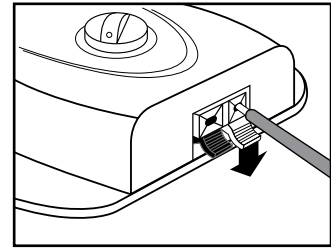

figure 18
- Insert one end of the Boundary Wire into the black tab on the bottom of the Base Transmitter by pulling back the black tab. (fig. 18)